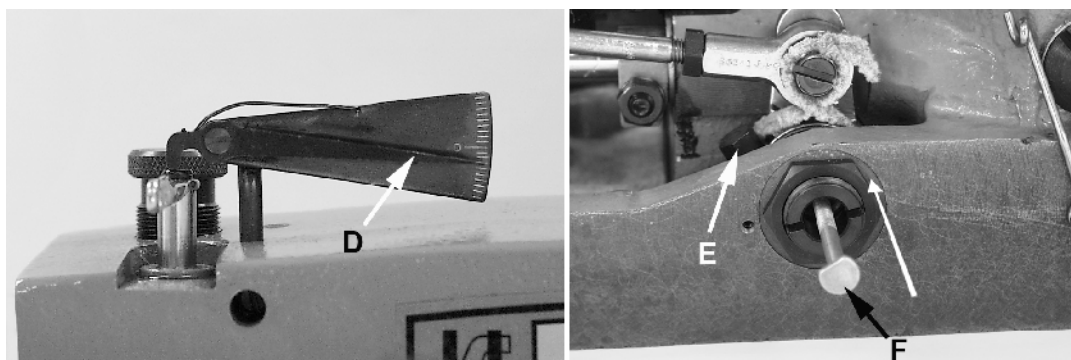

Fig 3B
If pointer on the indicator reads below the "0", (Fig. 3B). Loosen screw (E) in the looper drive lever and tap screw (F), (99271), slightly away from the operator. Retighten screw (E) in the looper drive lever and recheck the synchronization as outlined above. Repeat as necessary to obtain proper synchronization.